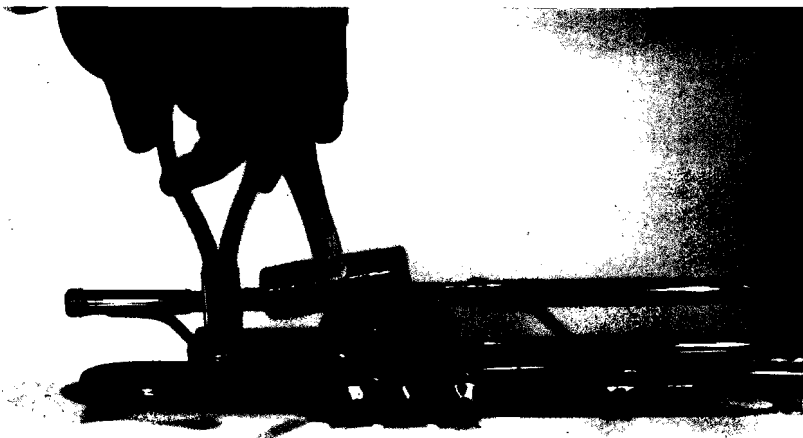

Figure 72
6. If the stuck slide is one that has a small slide bow (first, second, or third valve slides), insert a tapered rod (i.e., a jaw of the round nosed pliers) against the inside of the bow, and tap with a rawhide mallet (Figure 72).